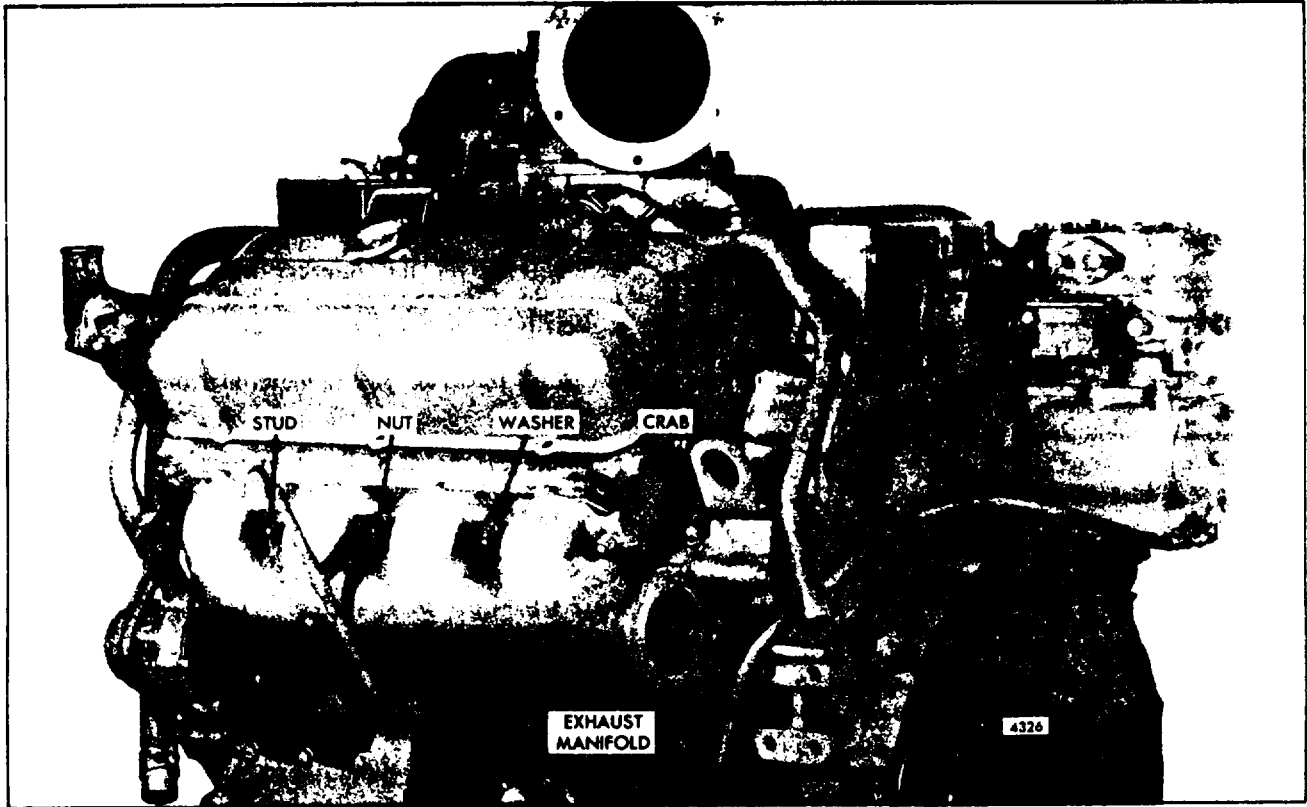

Fig. 1. - Exhaust Manifold with Marmon Flange
3. Install the washers and nuts on the studs. If beveled (dished) washers are used, position them so that the crown side faces the nut. Crabs are used in place of washers at the end positions (Fig. 1).